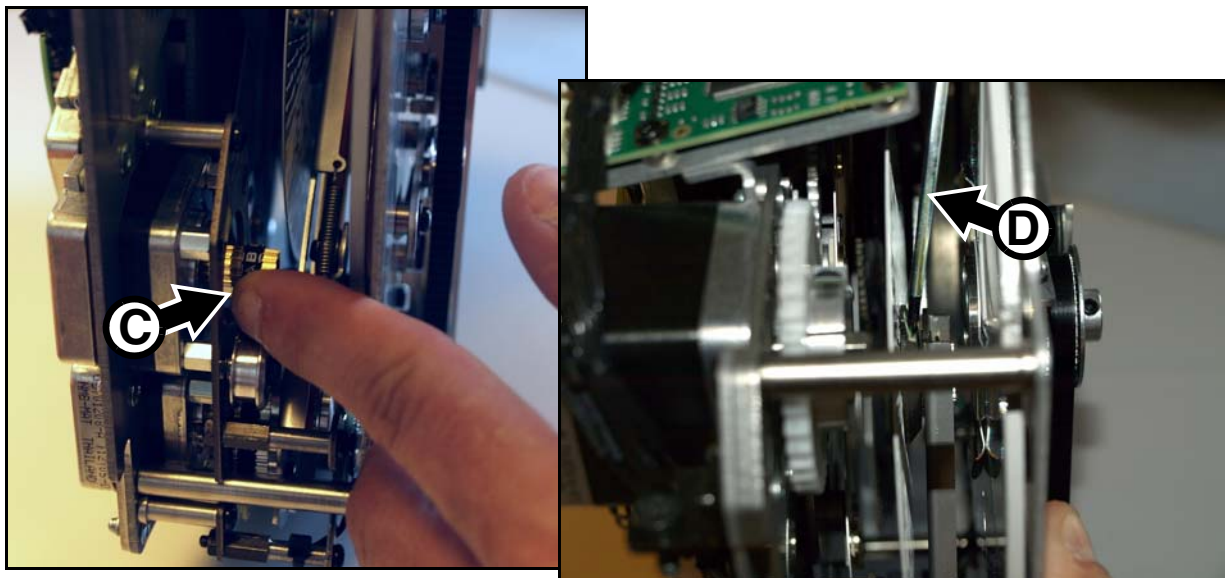

Figure 28: Removing the animation wheel
5. See Figure 28. For easiest access, rotate cog **C** in the animation wheel positioning system to move the animation wheel out as close as possible to the edge of the module. Using a flat-headed screwdriver **D**, apply gentle pressure to the center of the animation wheel to carefully lever it off its hub and release it. The wheel is delicate. Avoid bending it during removal and storage.